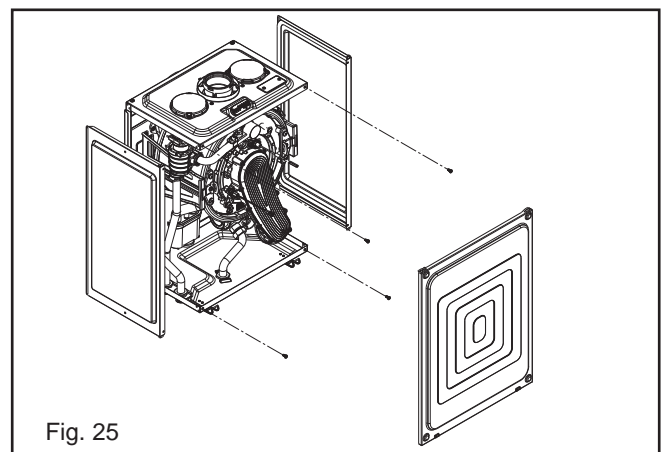

Fig. 25
6.4.1 AIR BOX FRONT COVER REMOVAL (fig. 25)